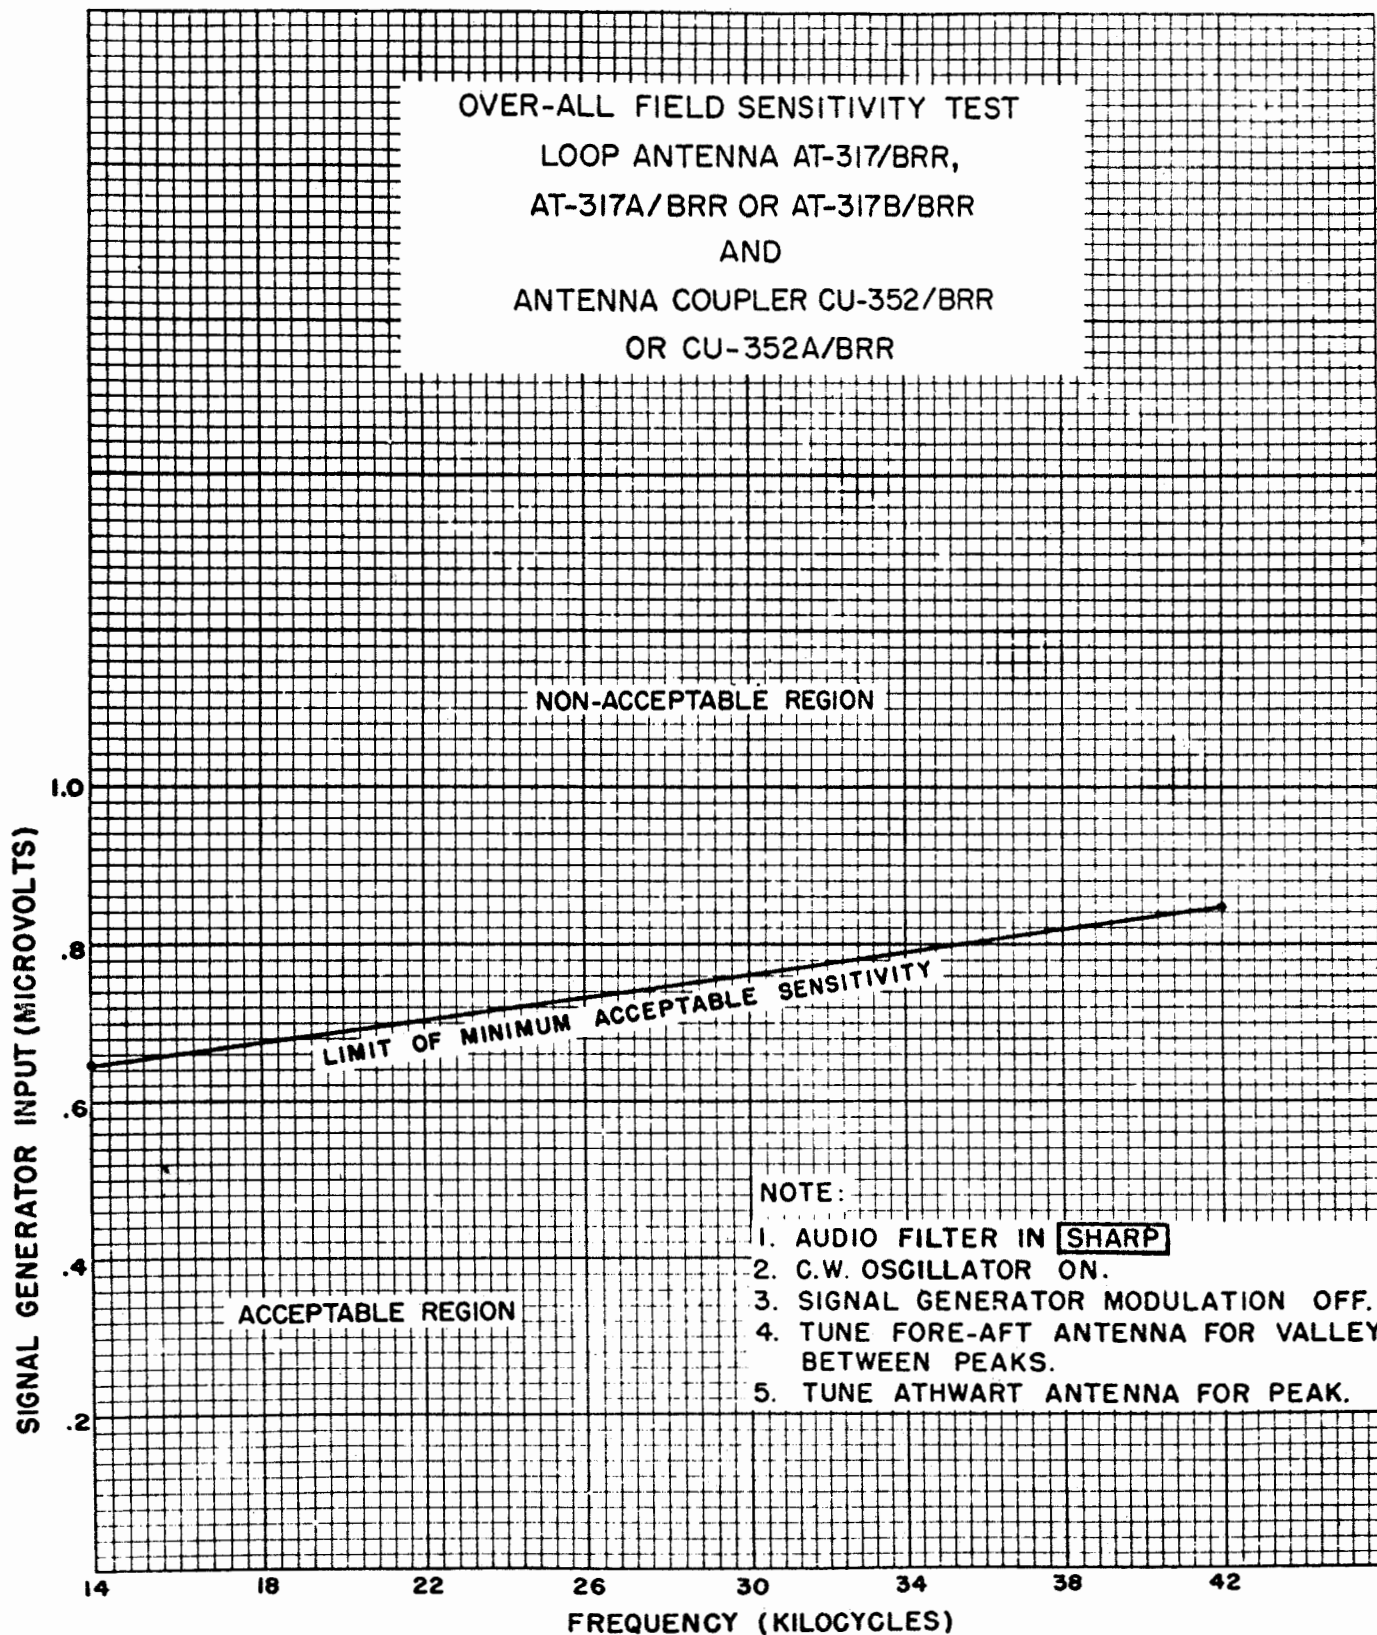

Figure 6-3. Sensitivity Graph AT-317/BRR, AT-317A/BRR and AT-317B/BRR VLF Loop Antenna System.
- STEP 12.** Read the signal generator output and divide it by 100 to obtain sensitivity. Readings should be less than .85 microvolts. Use the graph (figure 6-3) for comparison.
- STEP 12. Read the signal generator output and divide it by 100 to obtain sensitivity. Readings should be less than .85 microvolts. Use the graph (figure 6-3) for comparison.